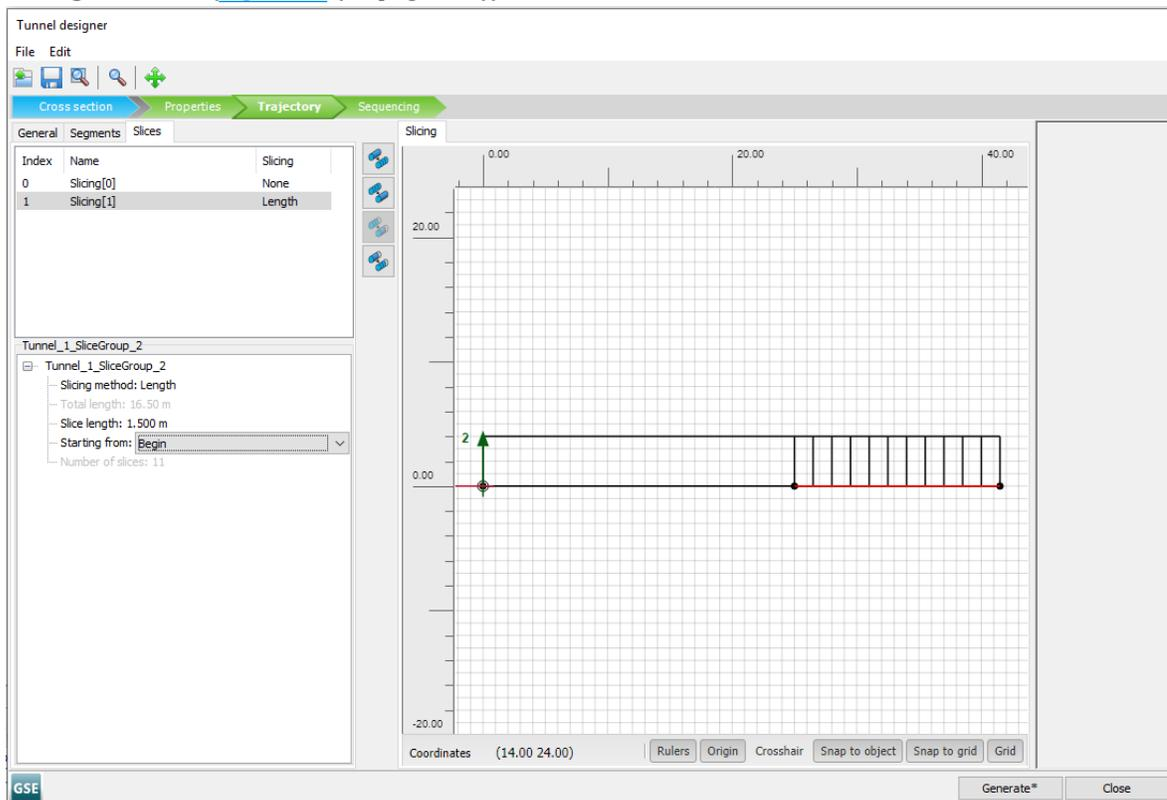

Figure 76: Trajectory tabsheet in the **Tunnel designer**
6. Click on the second created segment. In the properties box, select *Length* as the **Slicing method** and set the **Slice length** as 1.5m (Figure 76 (on page 103)).